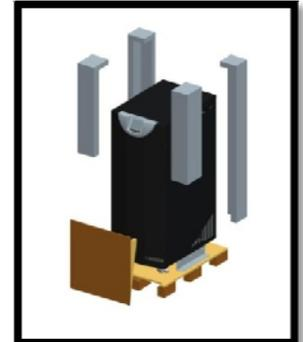

Fig. 2-3
4. Remove the foam dividers. (Fig. 2-3)